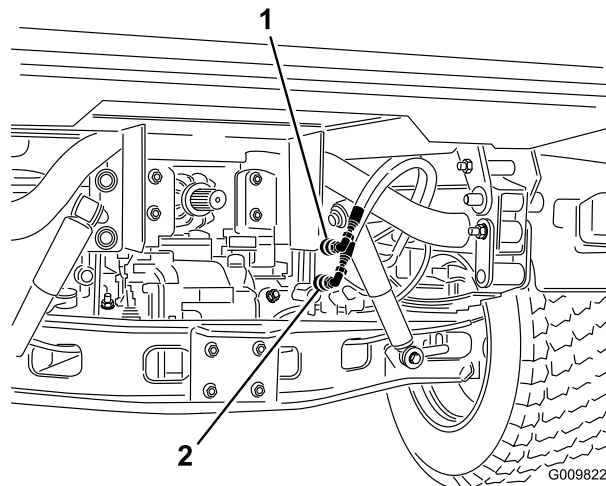

Figure 16
2. On vehicles with serial numbers 240000001 & up, disconnect the two lift cylinder hoses from the hoses secured to the coupler bracket (Figure 16). Insert caps into cylinder hose quick couplers.